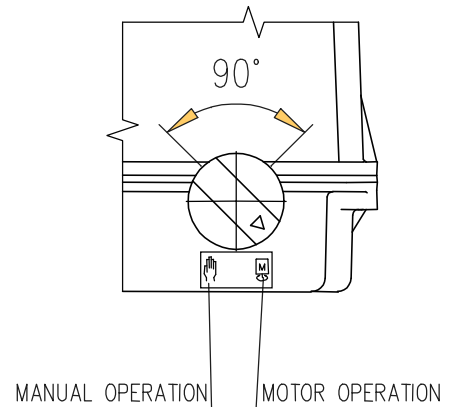

Fig. 10
- Turn the button for gear disengagement to the right by 90° (Fig. 10), the button arrow shows the symbol of hand) what disengages the gear in the actuator. In case of lever actuator it is needed to hold the lever to prevent the device with load against stroke to the end position.